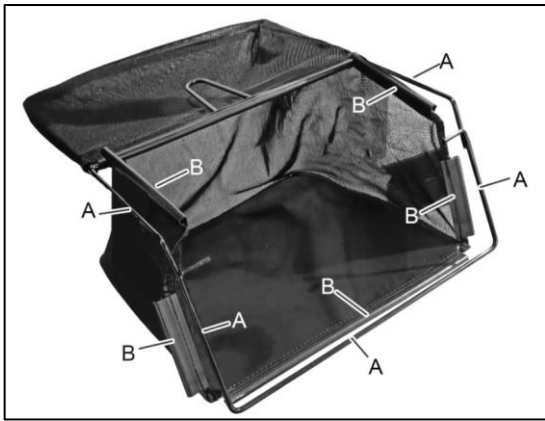

Fig.6
To place the steel frame into the grass basket, attach all fastener (B) to poles (A) of the frame. Make sure that all fasteners are secured correctly. (Fig.6)